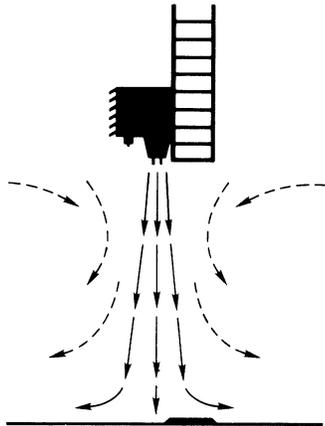

Figure 6 - Desired Air Flow Adjustment for Temperature and Humidity Control.
**NOTE: Air direction settings shown in Figures 6 & 7.**